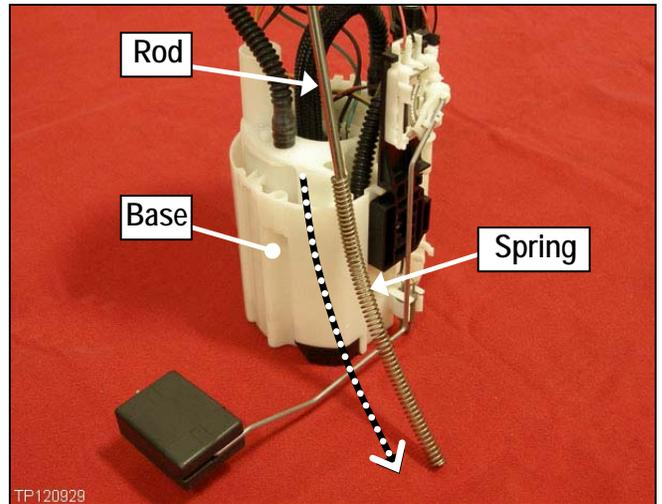

Figure 4
- d. Remove the spring (see Figure 4).